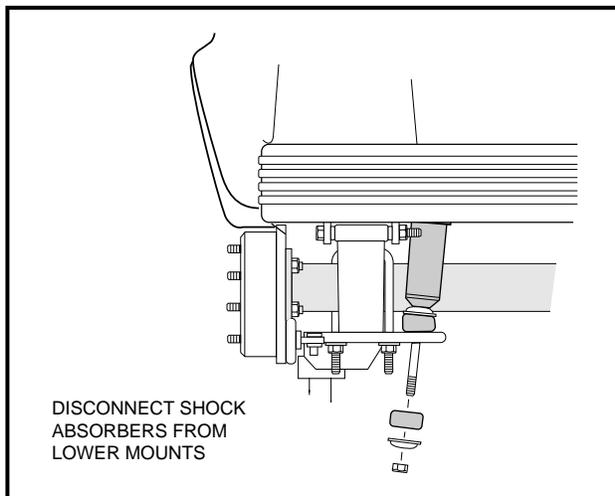

Figure 16-10 Disconnect Shocks
5. Disconnect the shock absorbers from their lower mounts (**Figure 16-10, Page 16-7**).